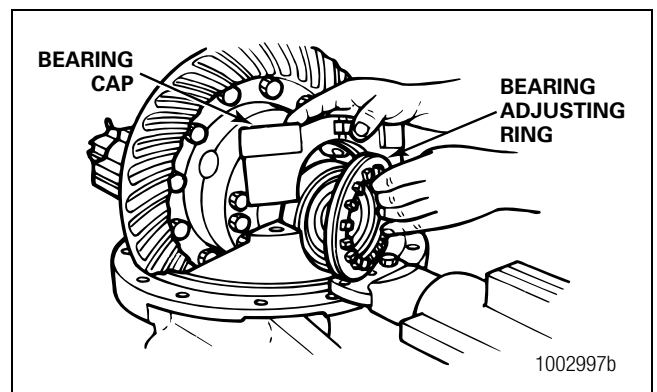

Figure 3.14
7. Remove the bearing caps and bearing adjusting rings from the carrier. Figure 3.14.